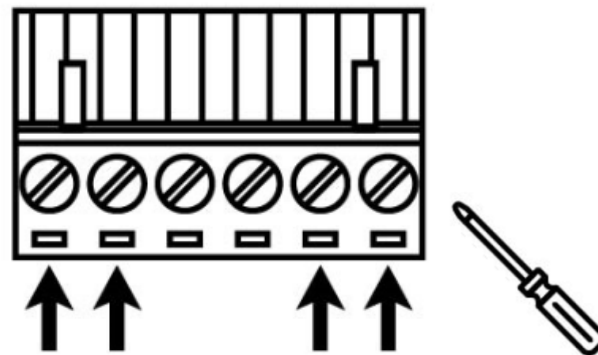

Figure 2.11: Power Terminal Block
Step 2. Tighten the wire-clamp screws to prevent the wires from loosening, as shown below in Figure 2.11.